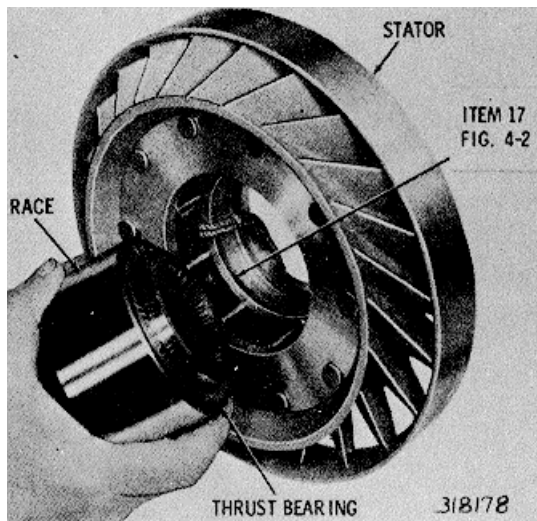

Fig. 6-11. Installing freewheel roller race.
(6) Install the thrust bearing onto the freewheel roller race (fig. 6-11).
(7) Start the freewheel roller race the roller holder (fig. 6-11). Rotate the race clockwise to install it.